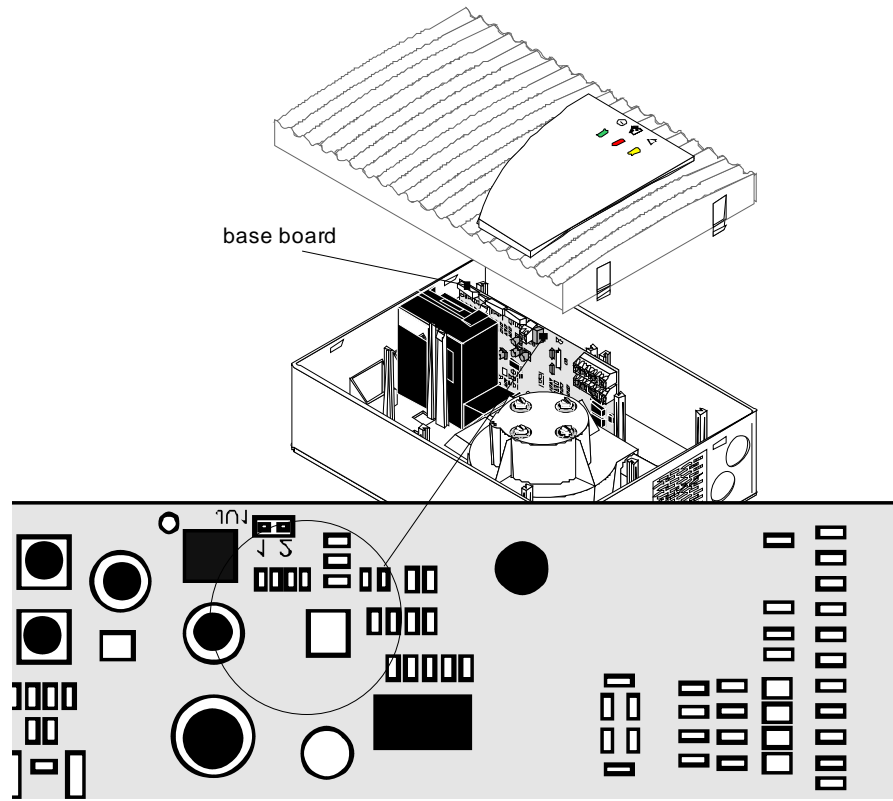

Fig. 7.3: Adjustment dependent on the air pressure of the air flow sensor of Honeywell ALL-SPEC
5. Connect the multi-meter to the measuring points MP1 (+), MP4 (-) (refer to Fig. 7.3). Pay attention to the polarity. Choose the "V-DC" range of the measuring device. The standard voltage at the measuring points is 1.2 V.